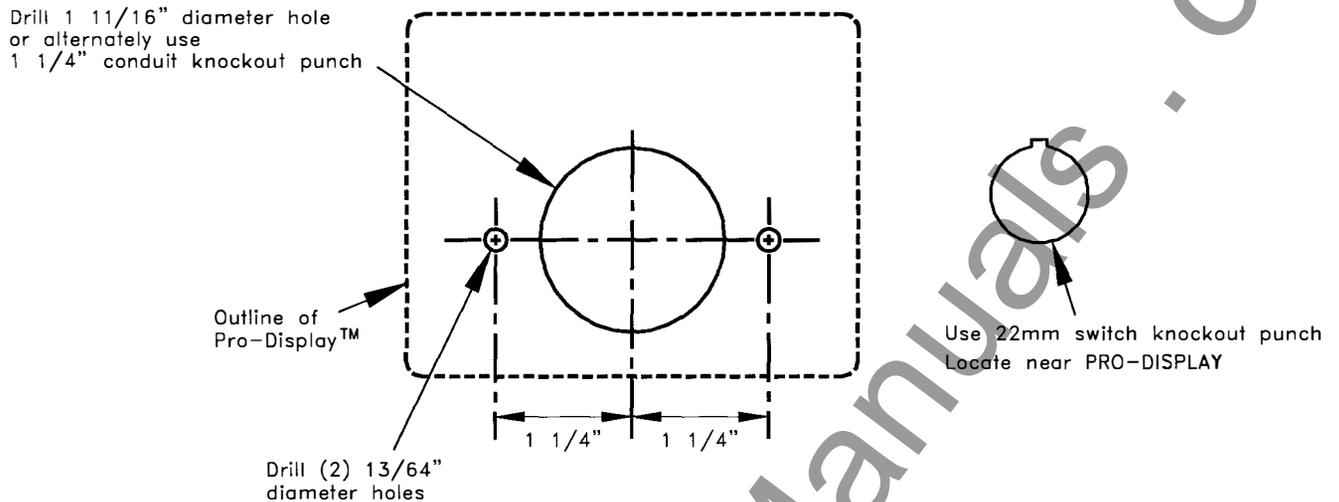

Figure 6.2
1. Find a suitable location on the cubicle door and mark the location of the three (3) holes using the dimensions in Figure 6.2.
2. Drill two (2) 13/64" mounting holes.
4. Attach the Pro-Display to the front of the cubicle door using two (2) 10-32 x 3/8 R.H. screws and lock washers.